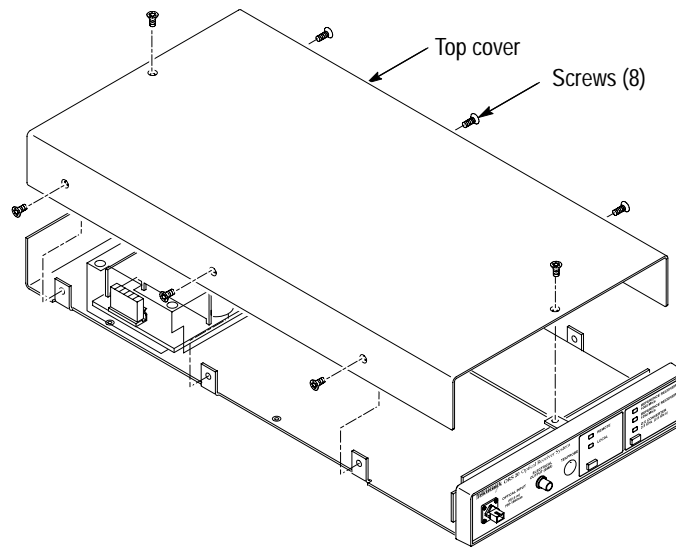

Figure 10: Removing the top cover
1. Remove the 8 screws from the top cover. See Figure 10.